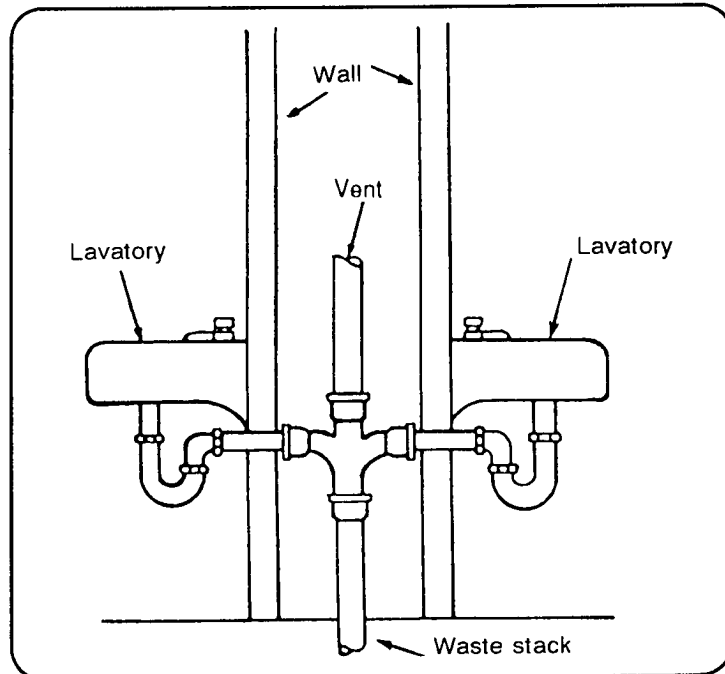

Figure 9-10. Common-vented fixtures
c. *Common Vent.* Fixtures mounted side by side or back to back on a wall are common vented. In the common vent, both fixtures discharge into a double sanitary T with deflectors (Figure 9-10). This venting system usually is found in buildings where two bathrooms have a common partition.